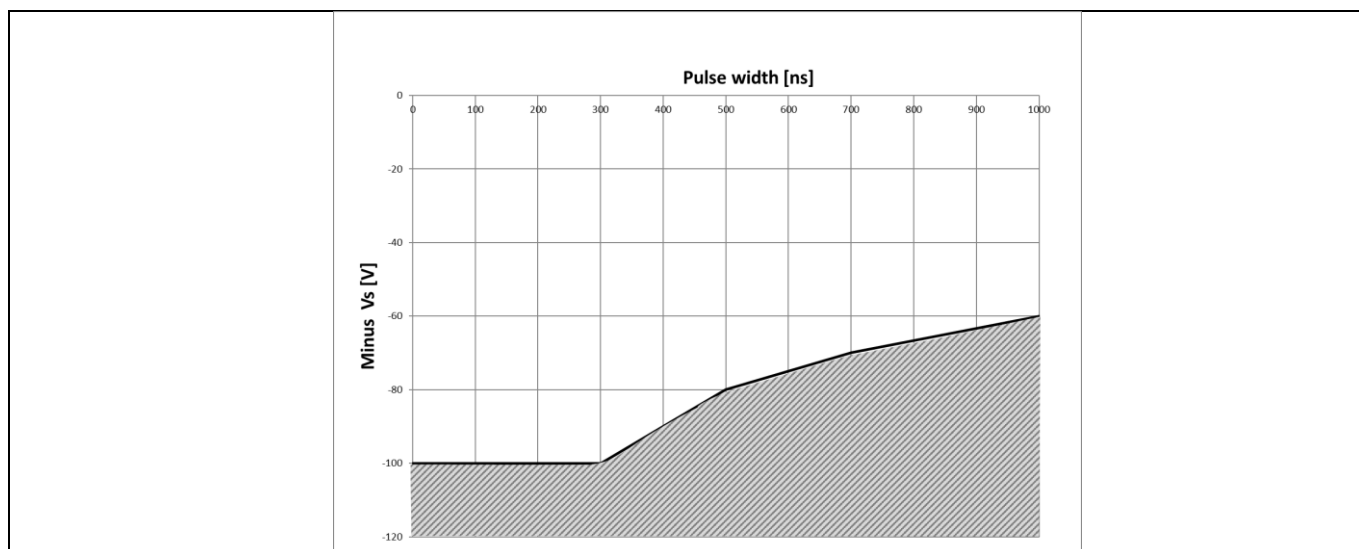

Figure 21 Negative V_S transient SOA for 2ED2108 (4) S06F (J) @ $V_{BS}=15\text{ V}$
Infineon's HVICs have been designed for the robustness required in many of today's demanding applications. An indication of the 2ED2108 (4) S06F (J)'s robustness can be seen in Figure 21, where the 2ED2108 (4) S06F (J)'s Safe Operating Area is shown at $V_{BS}=15\text{ V}$ based on repetitive negative V_S spikes. A negative V_S transient voltage falling in the grey area (outside SOA) may lead to IC permanent damage; viceversa unwanted functional anomalies or permanent damage to the IC do not appear if negative V_S transients fall inside the SOA.